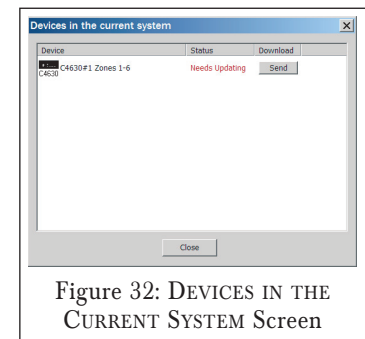

Figure 32: DEVICES IN THE
3. Open the COMMUNICATION menu and select SEND TO DEVICE. The DEVICES IN THE CURRENT SYSTEM screen (*Figure 32*) will appear. All DAB1s in the system will be listed in the window.